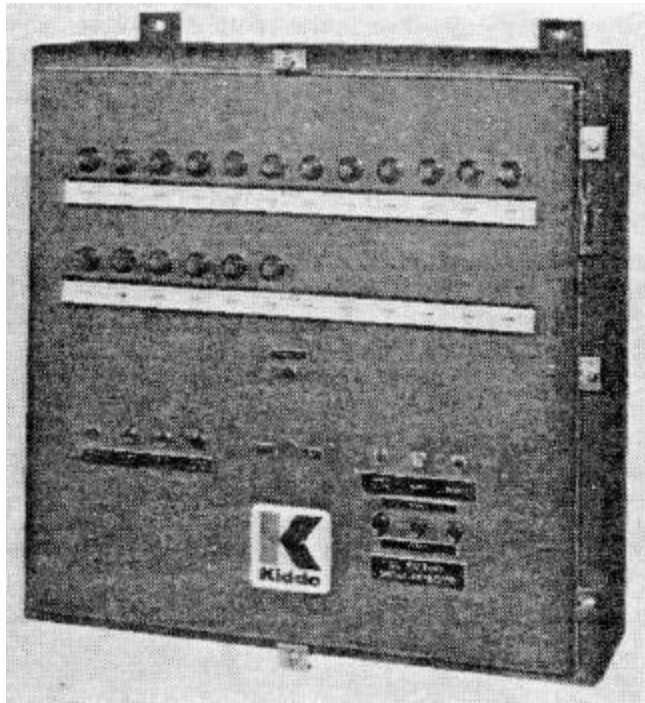

Figure 1-11. Exterior View of 18 Line Repeater Cabinet
- 1.21 Figure 1-11 shows the exterior of an 18 line repeater cabinet.